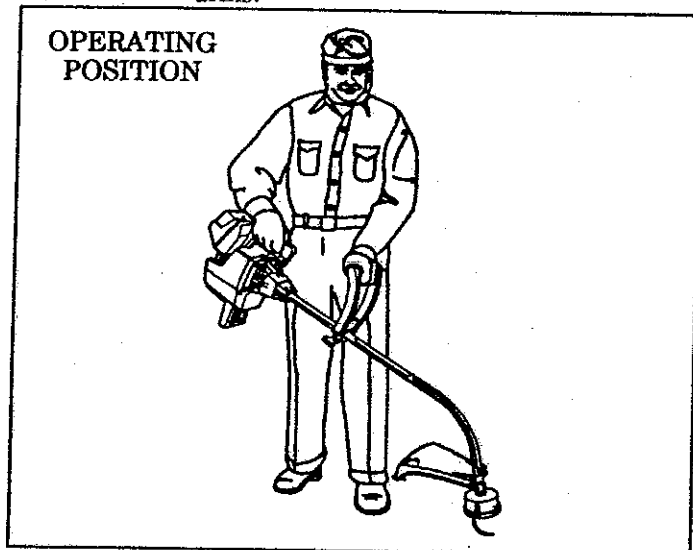

Figure 8
Failure to install the shield in the position shown in Figure 8 can result in serious injury to the operator. The length of the shield must be aligned with the length of the drive shaft housing. Direct the widest part of shield toward engine. Figure 8 .
- a. **Before starting the engine**, stand as shown in Figure 8 and check for the following: